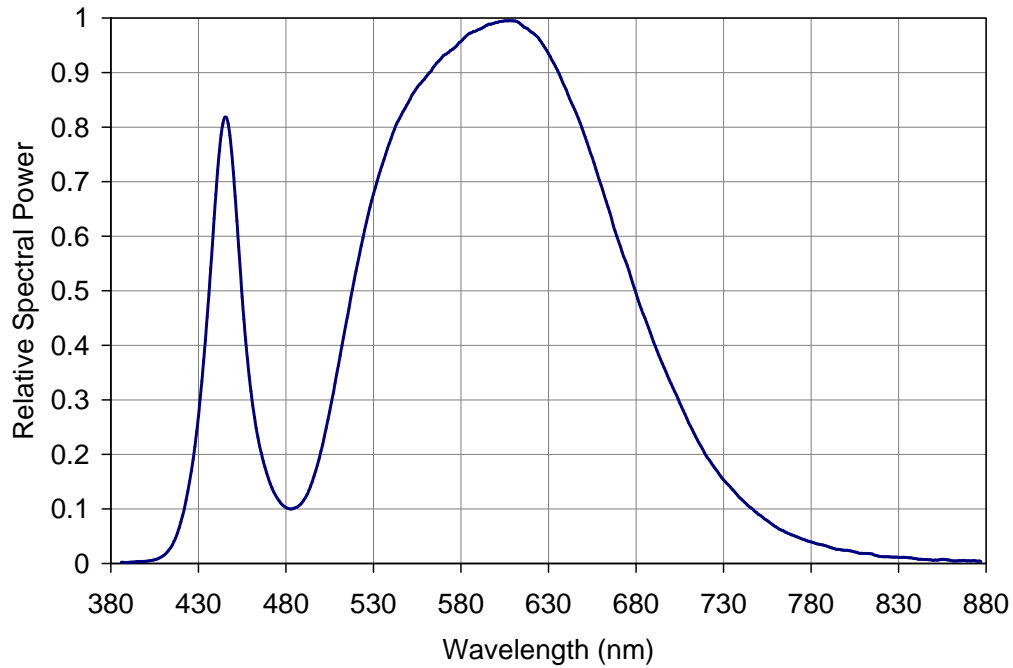

Figure 5: Relative spectral power vs. wavelength @ Tc = 25°C.
- Solder conditions per JEDEC 020D. See Reflow Soldering Profile Figure 5.